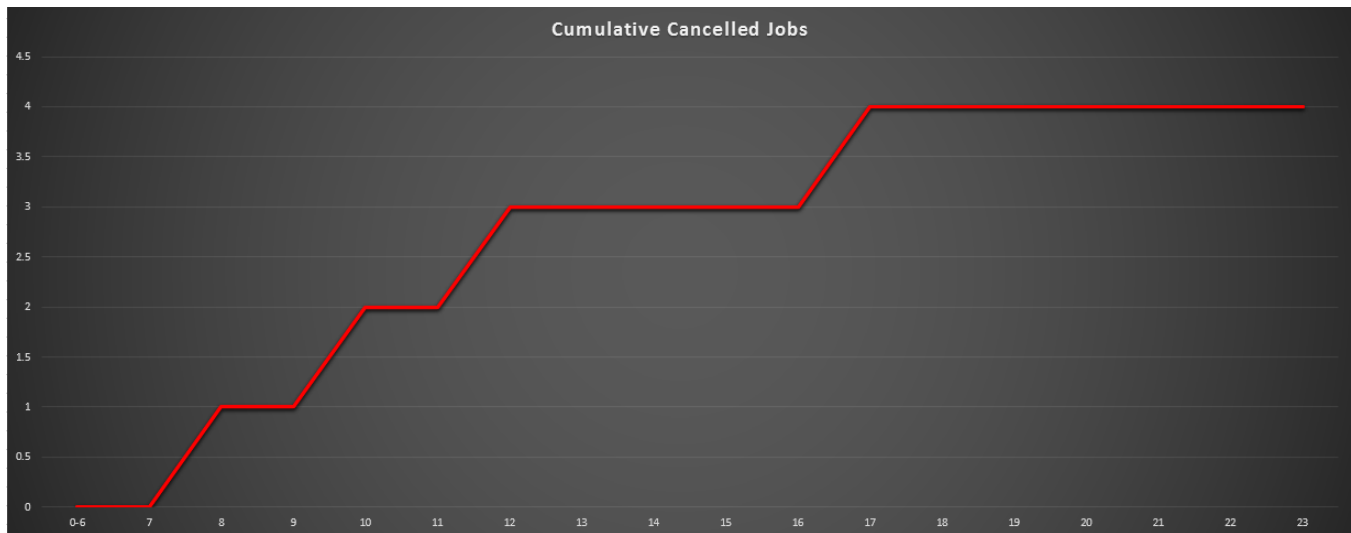

Figure 6.7: **Cumulative Cancelled Jobs:** Represents the total number of cancelled jobs for at the end of each time interval
- Figure 6.7: Cumulative Cancelled Jobs (Page 10)